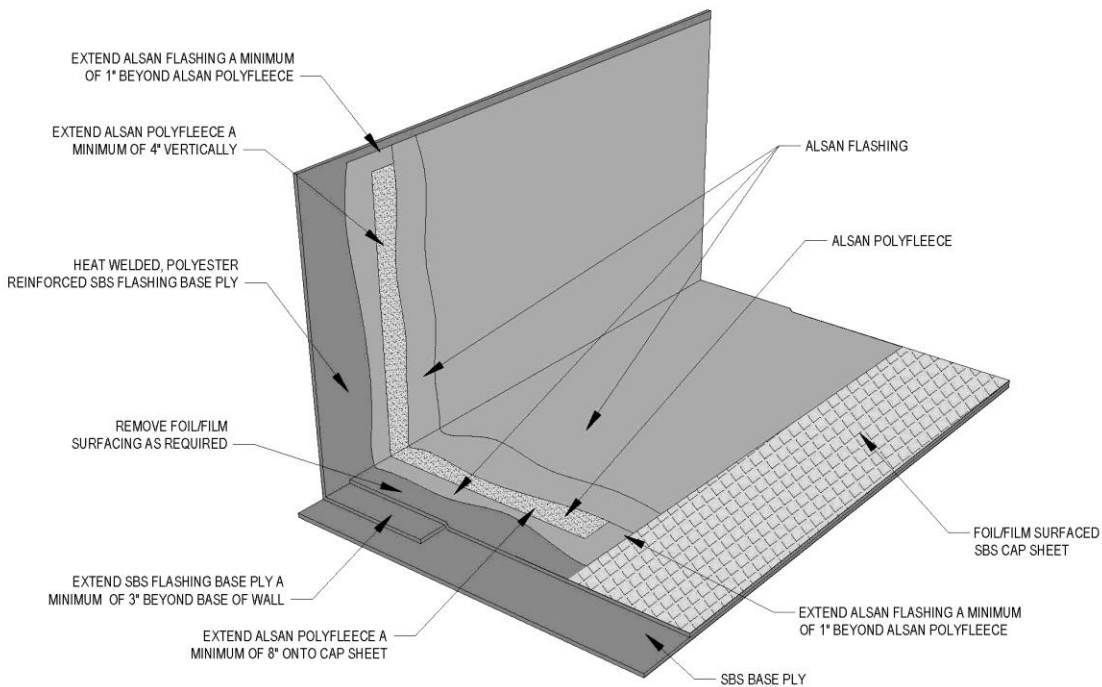

Figure 4.2b ALSAN® FLASHING Wall/Curb Flashing with SBS Flashing Base Ply on Foil/Film Surfaced Cap Sheet Without Cant
- Remove foil/film surfacing prior to installing the ALSAN® FLASHING roof system flashings on SOPRALAST™ cap sheets. Refer to Figures 4.2b, 4.2d, 4.2f, 4.2h, 4.2j, 4.2l, and 4.2n. Refer to Section 5.3.2 for removal of foil/film surfacing.